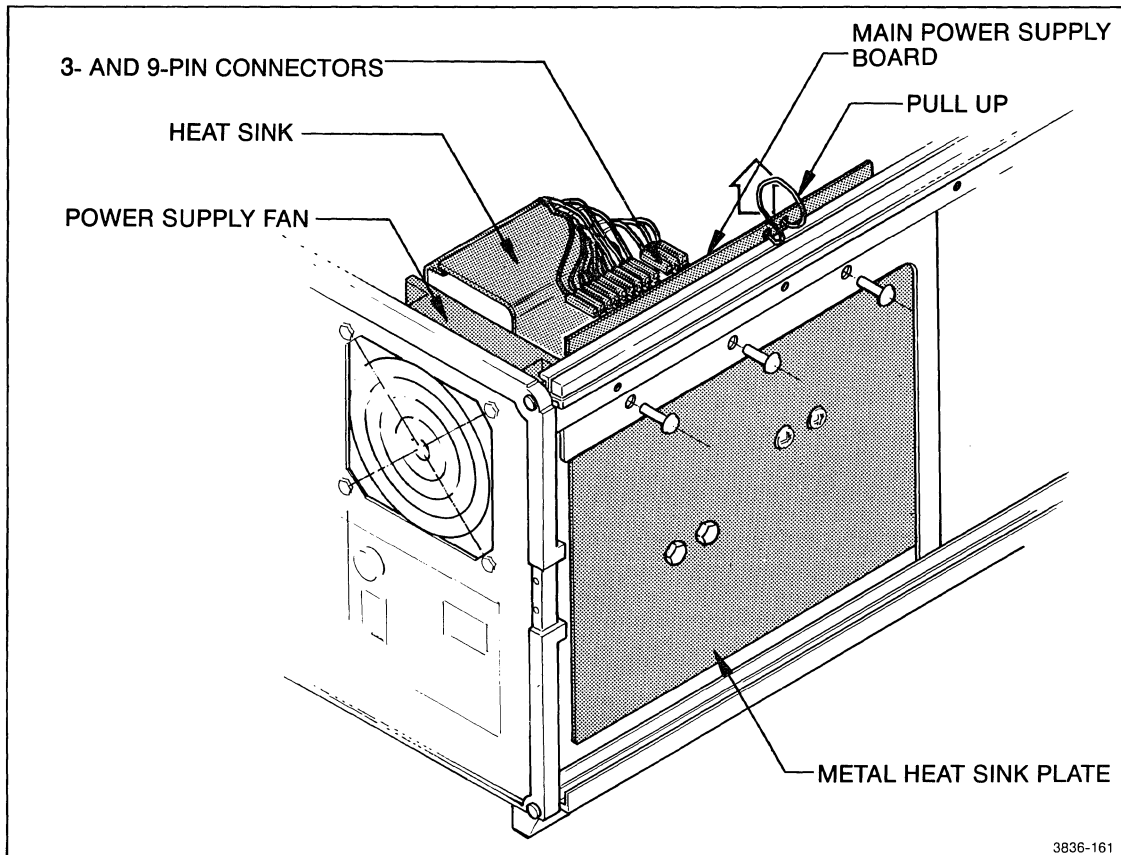

Figure 5-41. Main Power Supply removal.
9. Once this side panel is removed, remove the three screws shown in Figure 5-41.